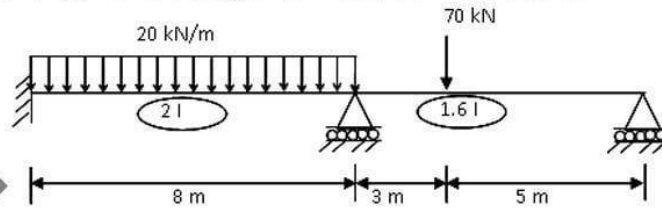

Figure 5
8. Analyse the continuous beam shown in the figure 5 using Stiffness Method. Draw shear force and bending moment diagrams. Also draw Elastic curve. [10]